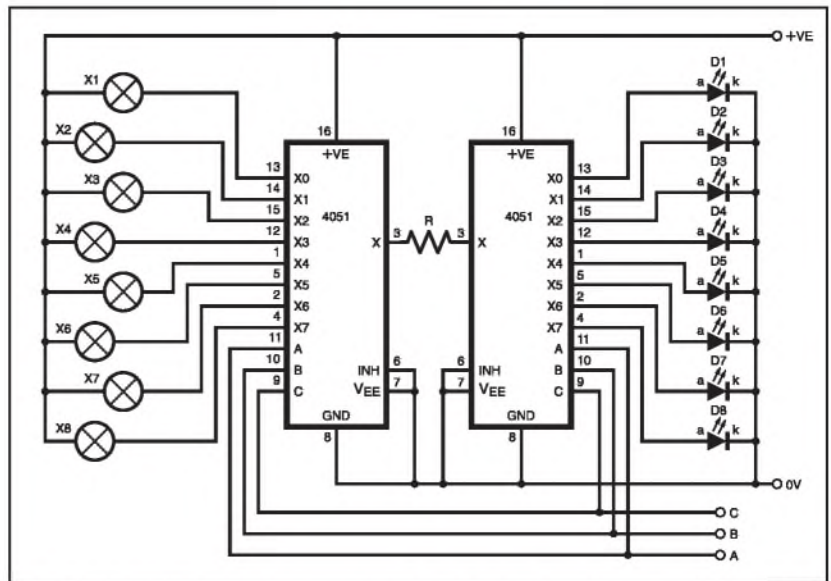

Fig.5.6. Multiplexing eight sensors and eight l.e.d.s using two 4051 analogue multiplexers.
A schematic representation of the system, in which two 4051 devices are used, is shown in Fig.5.6. Be aware that a practical implementation of it would depend on the sensor types. Also note that the l.e.d.s. require only one current-limiting resistor (R) between them as only one l.e.d. can ever be on at a time.